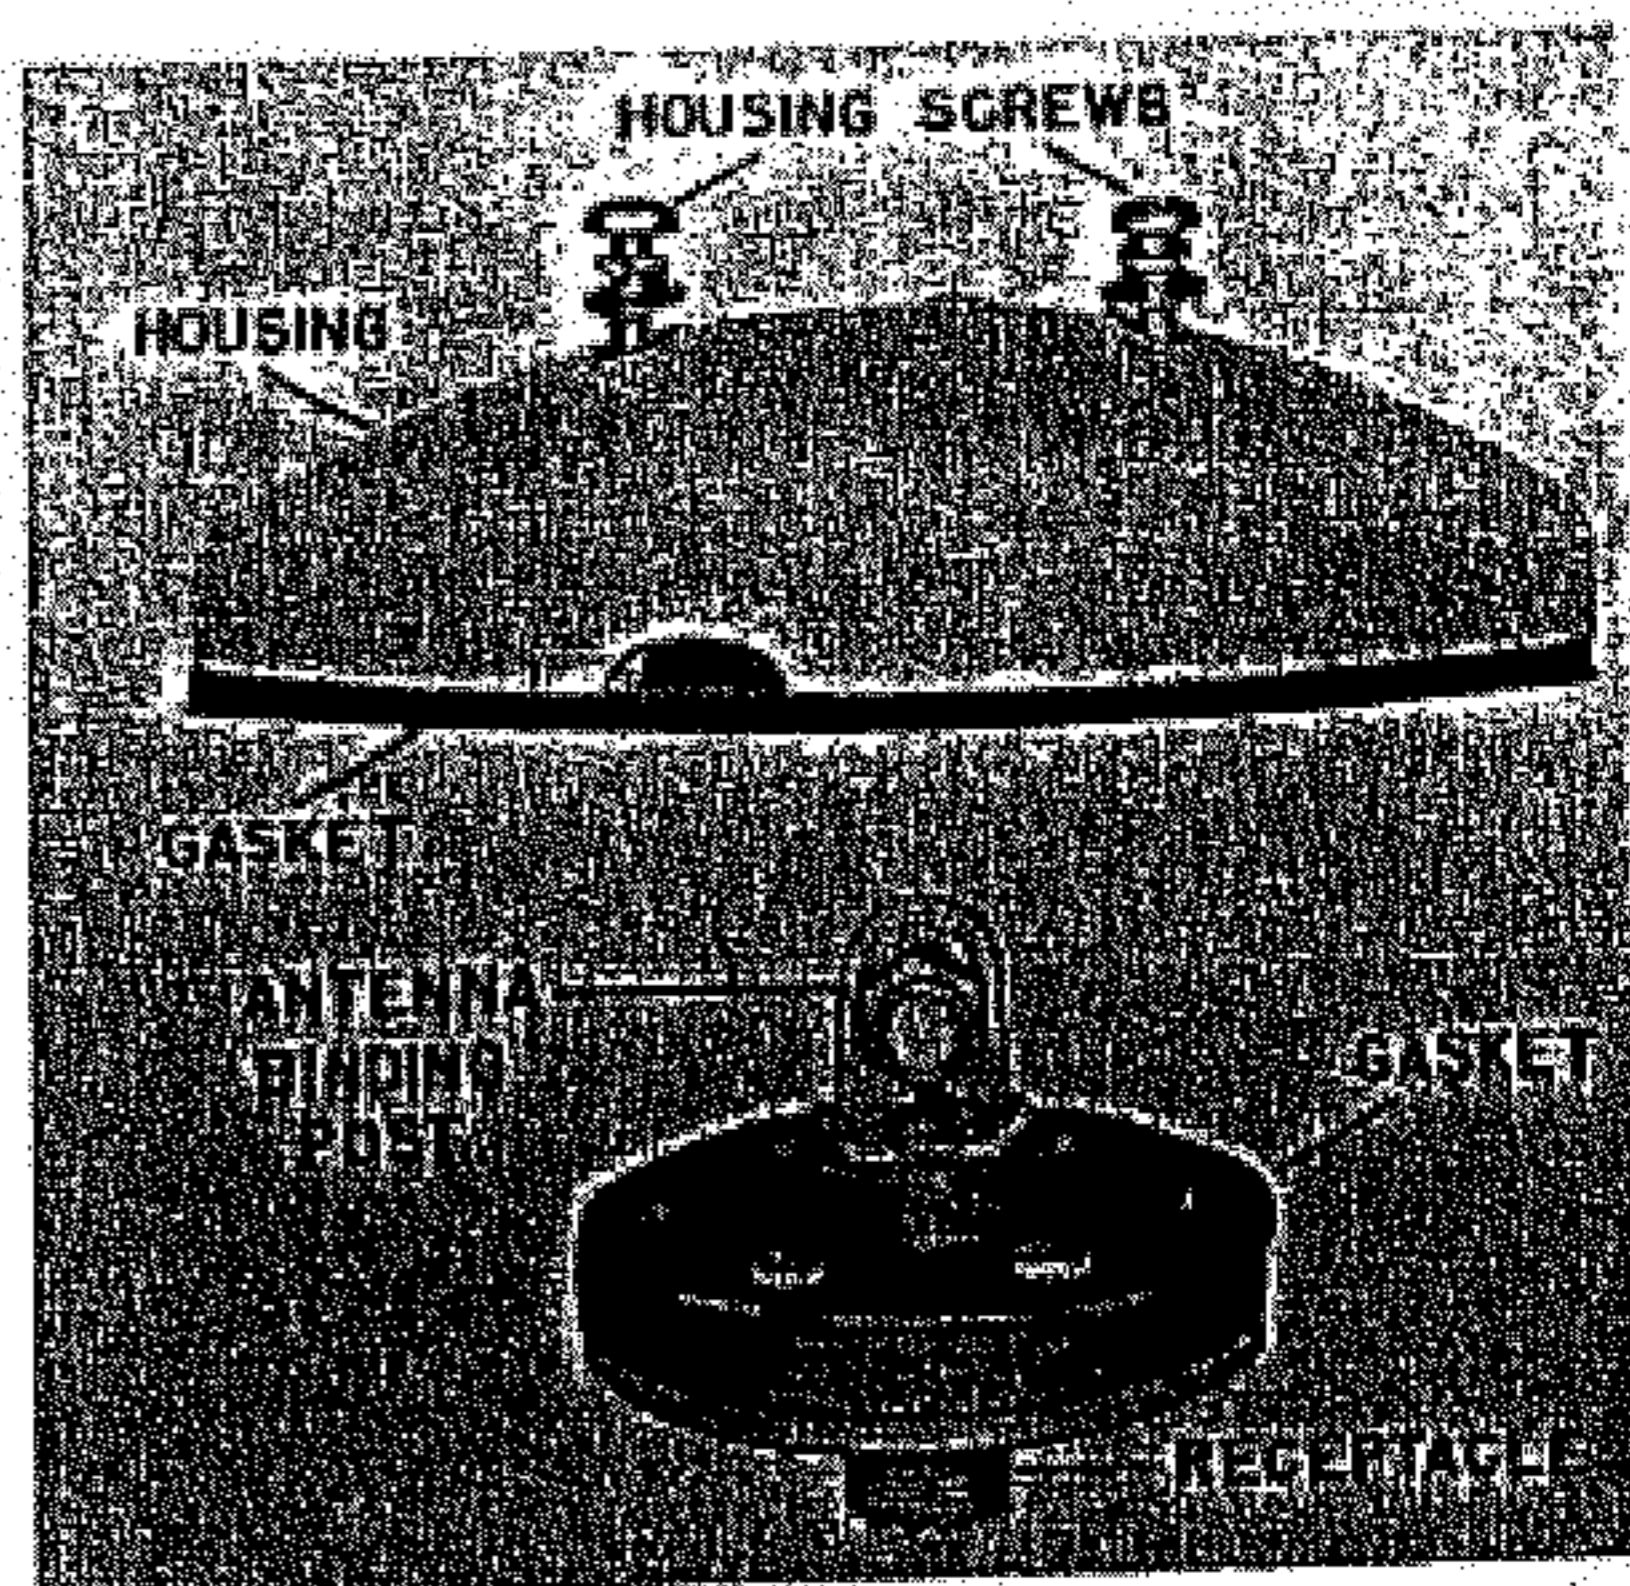

Figure 2-3. Coupling Unit CU-65/ARN-6, or
(5) COUPLING UNIT CU-65/ARN-6 or CU-65A/ARN-6.—Installation requires that a hole be cut in the skin of the airplane. (See figure 2-3.) Figure 6-14 gives the dimensions. Use No. 6-32 screws. The coupling unit must be located so that it can be connected to the receiver unit by either the 72 inch or